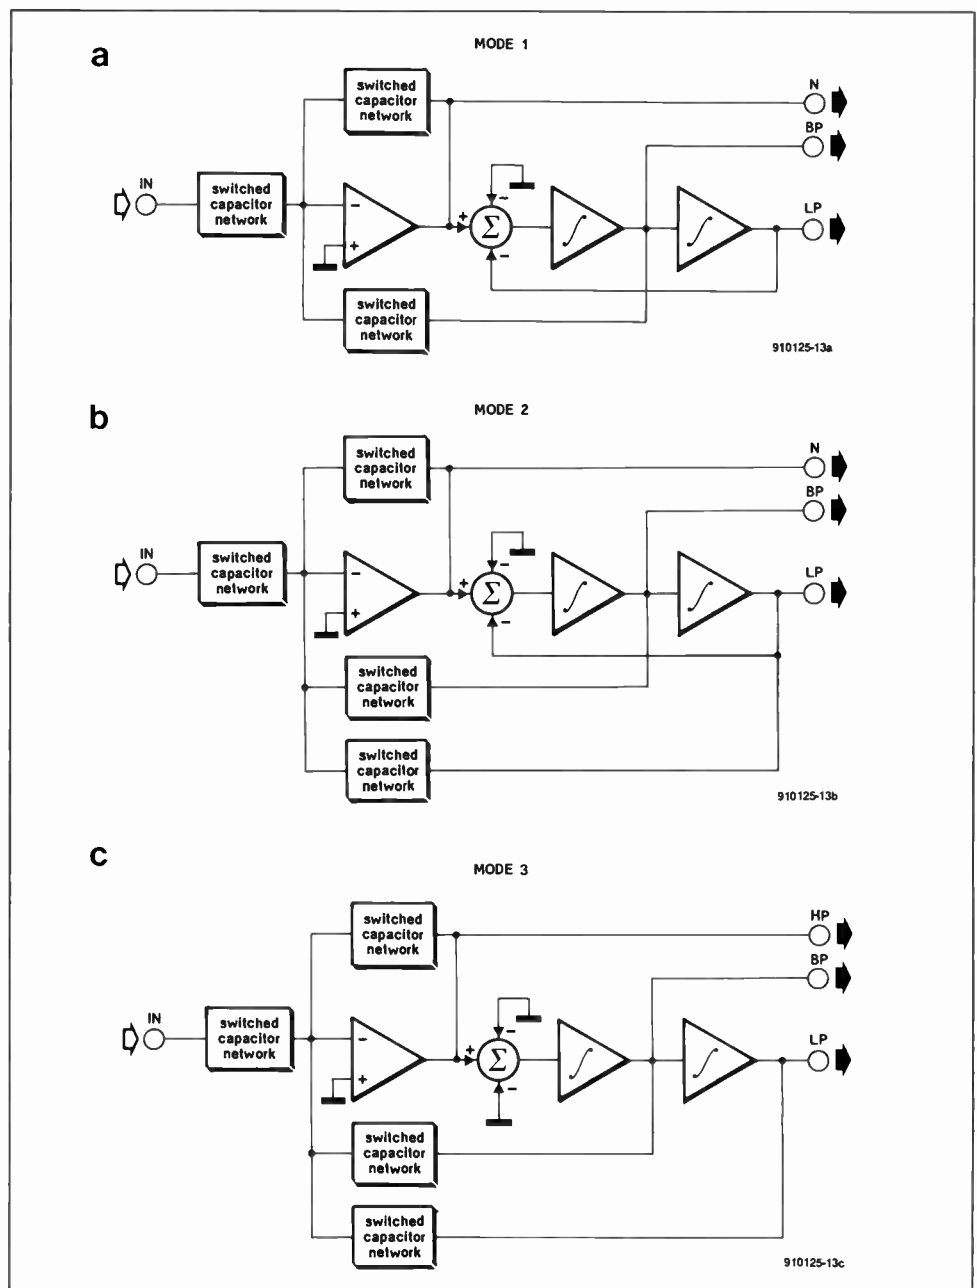

Fig. 3a, 3b, 3c. Filter modes selected by programming the IC.
**Mode 1** (Fig. 3a) is useful when implementing all-pole low-pass and band-pass filters such as Butterworth, Bessel and Chebyshev types. It can also be used for notch filters, but only second-order types because the relative pole and null locations are fixed. Mode 1, along with Mode 4, supports the highest clock frequencies because the input summing amplifier is outside the filter's resonant loop. The gain of the low-pass and notch outputs is 1, while the band-pass gain at the centre frequency,  $f_0$ , equals Q.